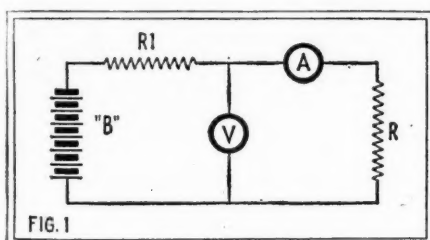

FIG. 1
The circuit action is further analyzed in detail at B, C and D (Fig. 1), which show more clearly how the three different currents were separated. B is the path of the R.F. current, which is unable to pass the R.F. choke coil; C is the path of the A.F. current, which is unable to pass the A.F. choke coil; and D is the path of the direct current, which is unable to pass through the by-pass condensers C1 and C2.
In the laboratory, the most frequent use of Ohm's Law is for measuring the resistance of circuits or instruments. Fig. 1 illustrates the circuit used for this purpose: in this case R is the resistance to be measured, V is the voltmeter which measures the potential or voltage across R, and A the ammeter measuring the current flowing in the circuit. B is a battery which provides the current, and R1 represents all other resistance in the battery circuit, such as that of wires, connections, etc., and even of the battery itself.
To illustrate how Ohm's Law is used, practical values will be given for the voltage and the current in the circuit of Fig. 1. If E (the voltage) is equal to 9 volts and I (the current) is equal to 0.5 amperes, then the resistance is equal to 9 divided by 0.5, or 18 ohms, by formula (3). (To divide by a decimal fraction, of course, the easiest way is to add to the number divided as many ciphers as there are figures pointed off in the fraction, and consider the fraction as a whole number; 90 divided by 5 is 18.)